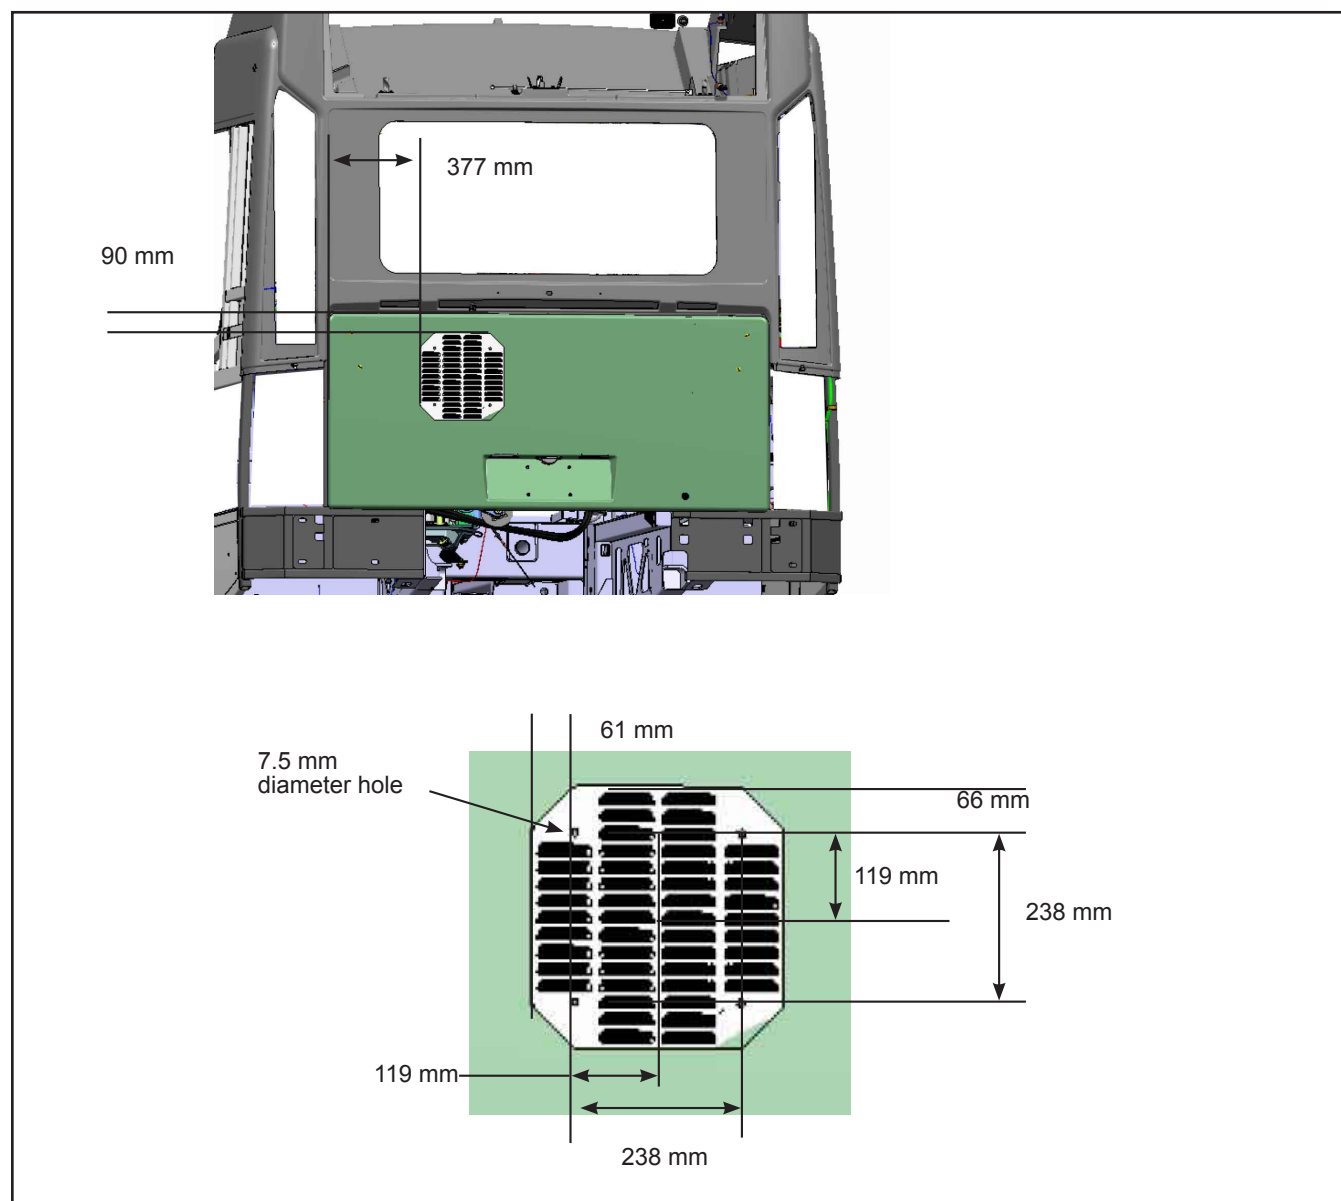

Figure 1 - Locate the Engine Compartment Door
- 1.2. Mark a circle and four holes. See Figure 1. The grill louver can be used as a template.